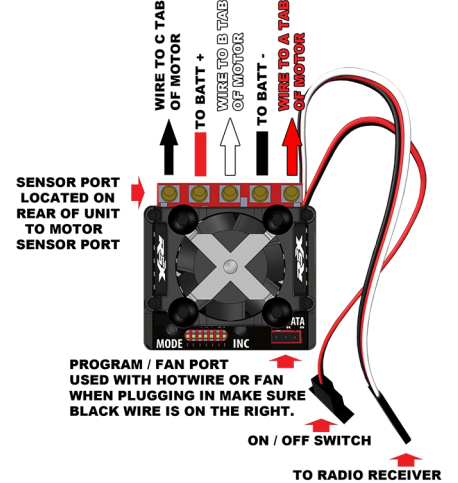

FIGURE 4.
- 1) With the ESC installed and properly wired, (Figs. 4, 5 & 6) connect the battery.
Brushless wiring instructions refer to Fig. 4
First, determine the type of motor you are using. **SENSORED** motors require the sensor harness, **SENSORLESS** motors do not. Refer to Figures 4, 5 and 6 for wiring brushless and brushed motors.